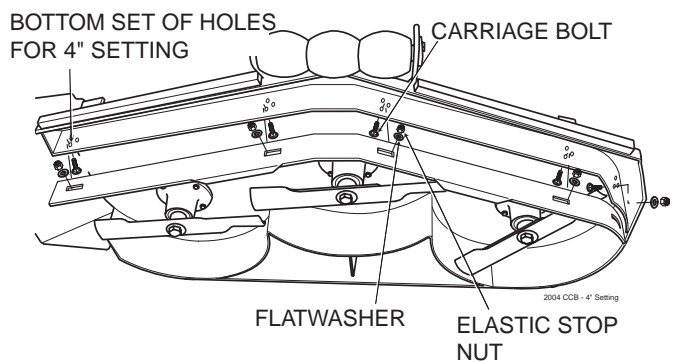

Figure 6-10. 4" Custom-Cut Baffle Position
- C. 4" Position - baffle is installed using the bottom set of holes on the front baffle welded inside the cutter deck. (See Figure 6.10). Placing the baffle in the 4" setting will enhance fall cutting (leaf pickup) and reduce cutter deck "blowout".
4. Reinstall the mounting hardware as shown. (See Figures 6.10 though 6.11). Torque hardware to 39ft.lbs.